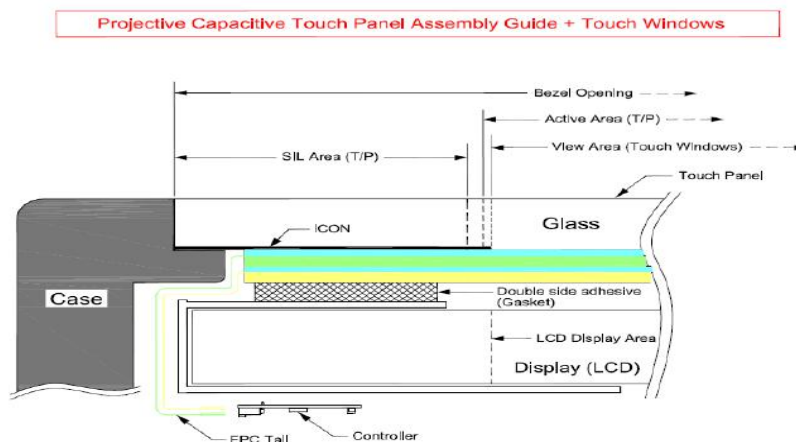

Figure 12-1
(1) The gasket support of touch panel must be designed on the outside of Viewable area, as well as to avoid pressing on touch panel accidentally, the enclosure must be designed with enough clearance to panel surface. To avoid pressing error on touch panel accidentally, please remain space between the surface of panel and the Bezel. (Figure 12-1)